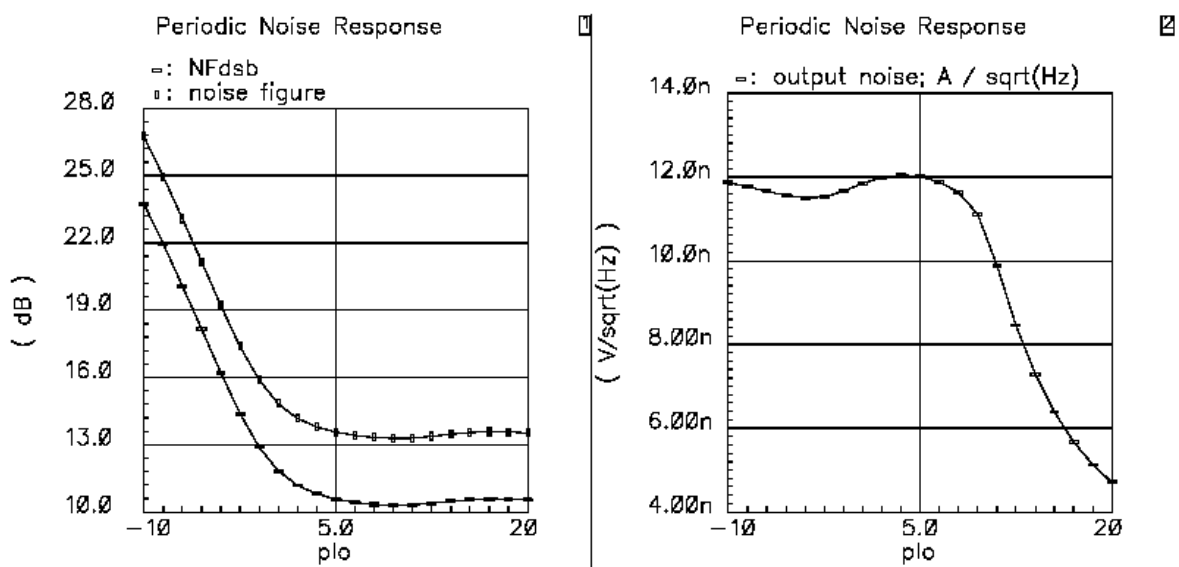

Fig 10: Noise Figure SSB , DSB and Output Noise
- *You will see the plot as shown in Fig10*